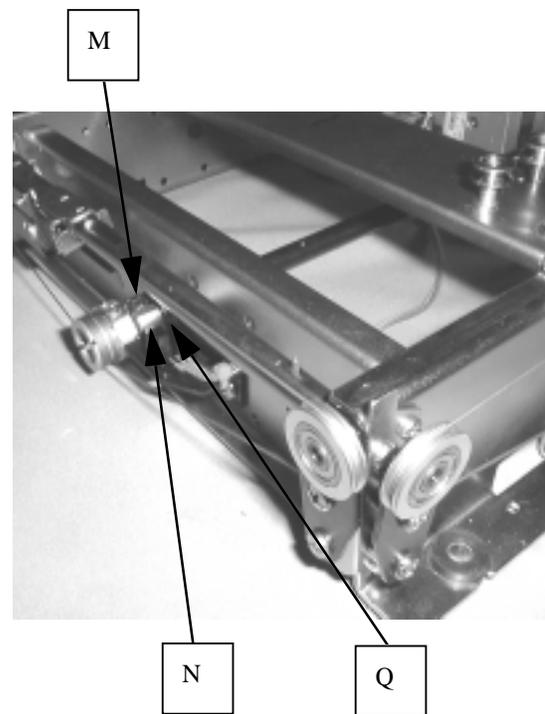
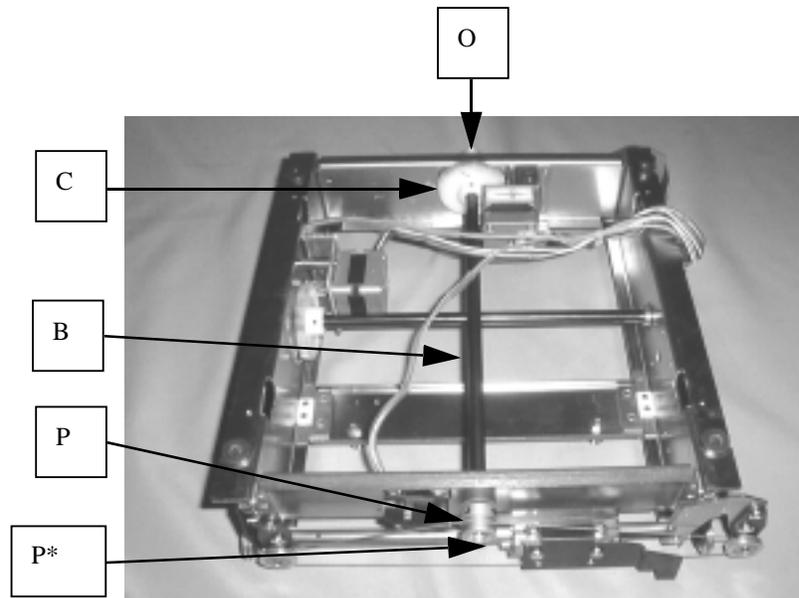

FIGURE 16-4
FIGURE 16-5
7. Remove ring (N) by removing setscrew (M) shown in Fig.16-4.
8. Draw out shaft (B).
9. Insert shaft (B) from the opposite side of sensor (L), insert thrust washer (O), and put the gear (C) facing right as shown in Fig.16-5. Mount thrust washer (Q) and ring (N), and fix the ring (N) by setscrew (M) after adjusting the thrust play to about 0.1mm. Fig16-4.